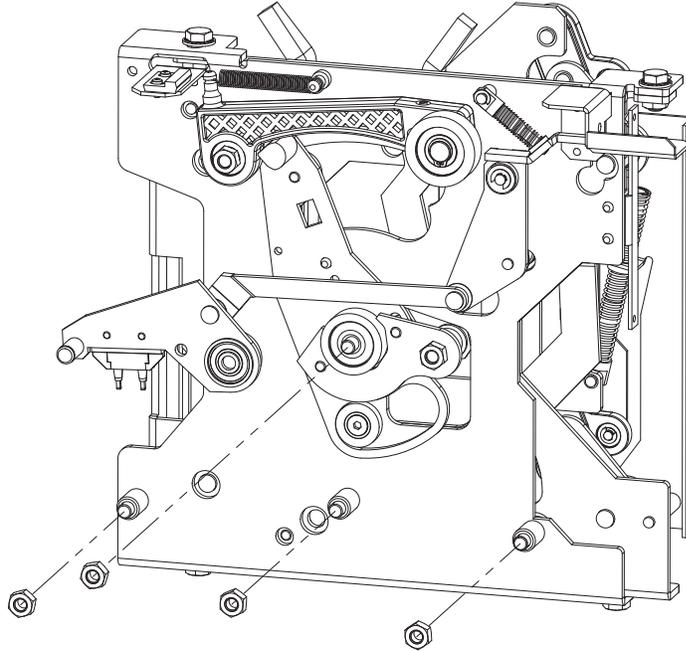

Figure 13 - Remove Shipping Nuts from Rear of Clutch
3. Remove the four shipping nuts from the rear of the clutch. See Figure 13.